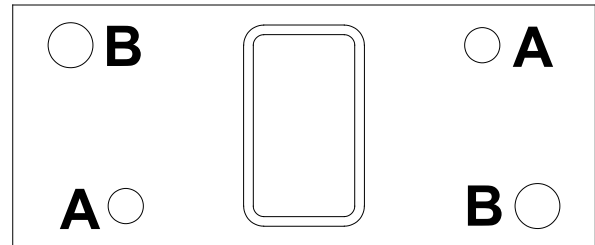

Fig. 1
- b. Anchor holes for either 3/8 (A) or 1/2 (B) (Furnished by others) See Fig.1